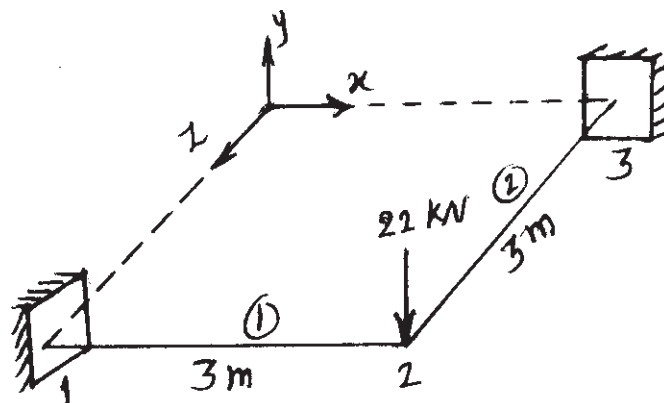

Fig. 3
- Q4) Analyse the grid as shown in fig. 3. The grid consists of two elements, is fixed at nodes 1 and 3, and is subjected to a downward vertical load of 22 kN. Take $E = 200 \text{ Gpa}$, $G = 84 \text{ GPa}$, $I = 16.6 \times 10^{-5} \text{ m}^4$ and $J = 4.6 \times 10^{-5} \text{ m}^4$. [18]